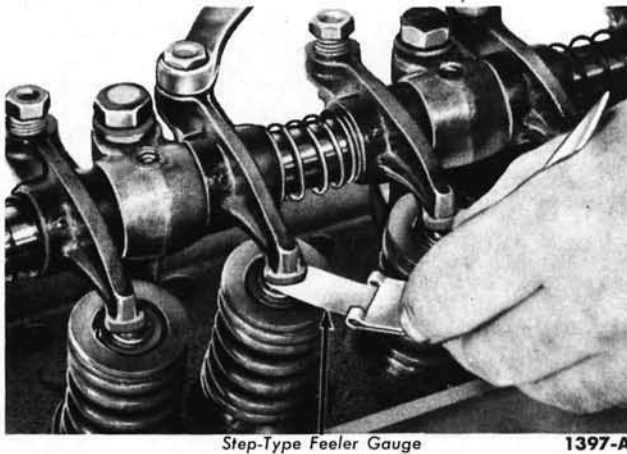

FIG. 22—Valve Lash Adjustment
4. Using a step-type feeler gauge ("go" and "no go"), adjust the intake and exhaust valve lash for No. 1 cylinder (Fig. 22). The preliminary (cold) intake and exhaust valve lash should be set at 0.019 inch.
Operate the engine for a minimum of 30 minutes at approximately 1200 rpm to stabilize engine temperatures. With the engine idling, check the valve lash. Adjust the lash if necessary (Fig. 22). The final (hot) intake and exhaust valve lash should be 0.019 inch.